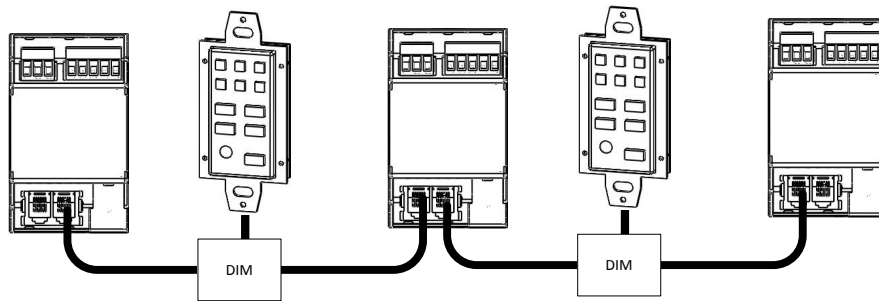

Figure 9
4.5 CS-Bus Wiring Directions (Multiple Controllers to Multiple Interface Devices). (See Figure 9 below.)